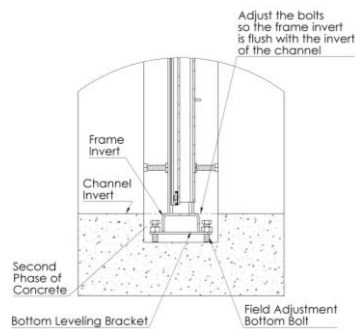

Figure 2
- Align the gate vertically adjusting the bolts on the "Bottom Leveling Brackets" (see Figure 2). Make sure that the frame invert is flush with the invert of the channel